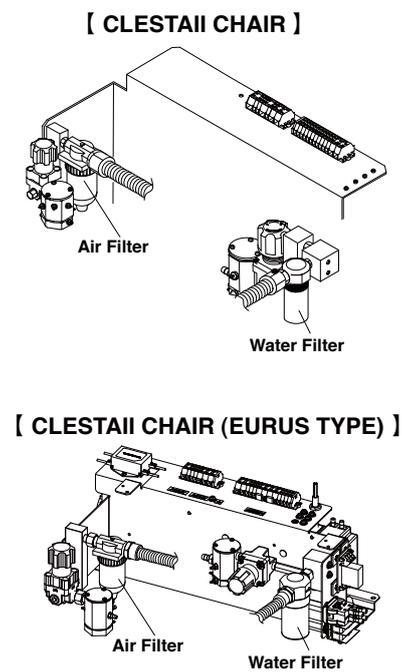

Fig.5-17 Filter
(10) Filter Replacement (Fig.5-17)